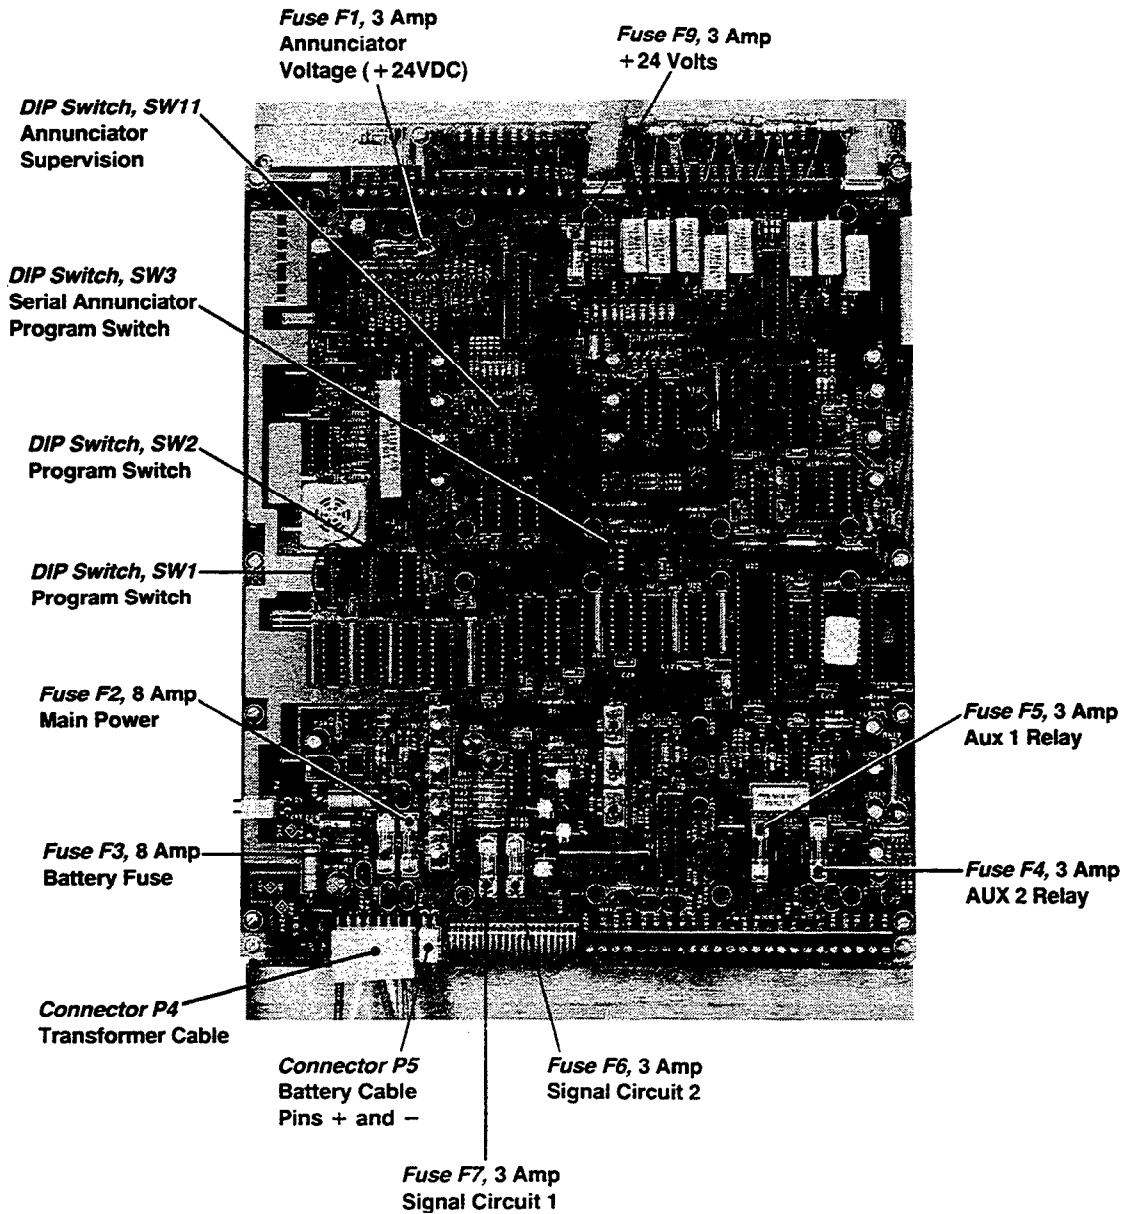

Figure 4 – Component Locations
- For location of SW2, see Figure 4 (page 15).
- c. Check to see what the panel's symptoms are. Then perform the action which applies to those symptoms as described in the SYSTEM TROUBLESHOOTING CHART. See Figure 4 (page 15) for location of components identified on the troubleshooting chart. The troubleshooting chart is located on pages 12 through 14.